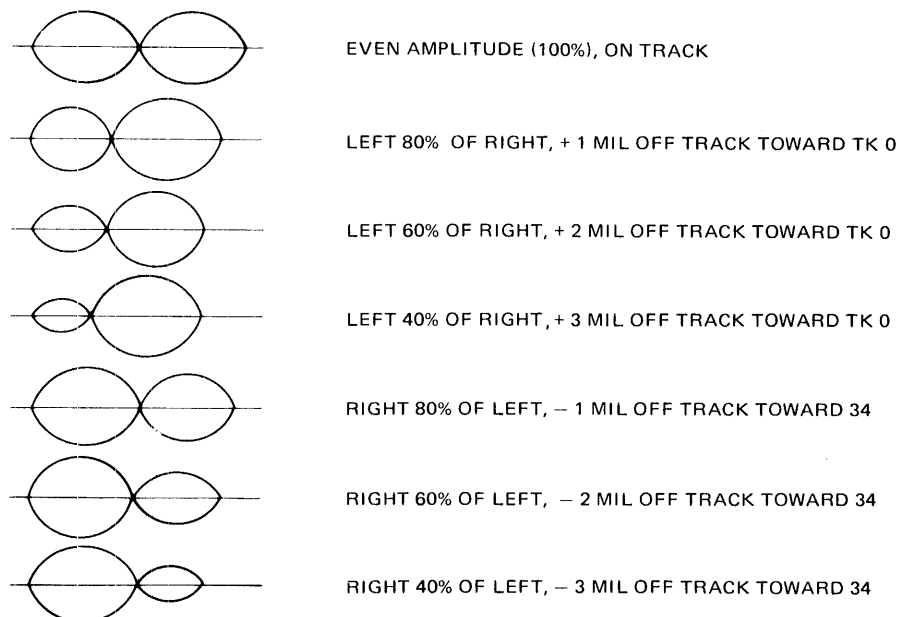

FIGURE 12. HEAD RADIAL ALIGNMENT
- i. When the lobes are of equal amplitude, tighten the motor mounting screws. Reference figure 12.